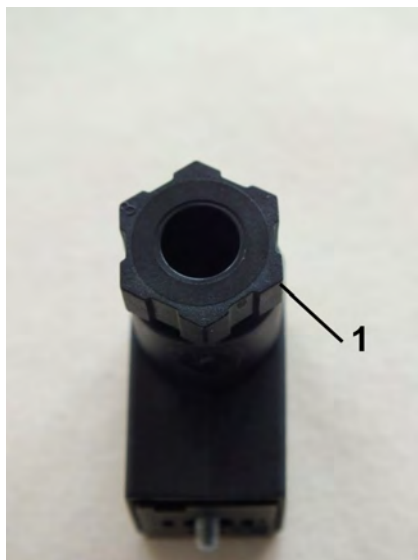

Fig. 23: Loosen the screw connection
- 4.** ➤ Loosen the screw connection (Fig. 23/1) by turning it to the left
- 8.** ➤ Retighten the screw connection (Fig. 23/1) by turning it to the right until tight